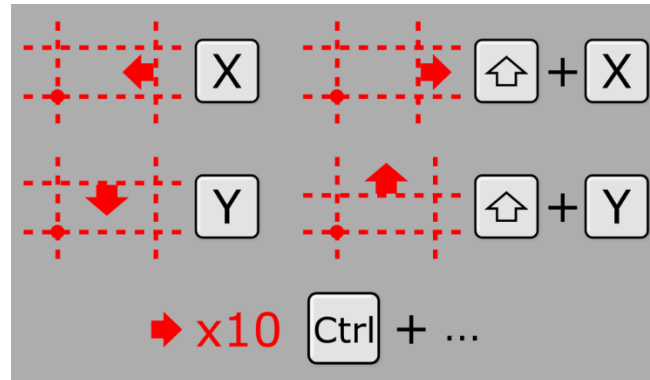

Figure 30 - Smart Cut re-scaling instructions
**Re-scaling.** To adjust the grid size during Smart Cut mode, use the keyboard shortcut described in Figure 30 :